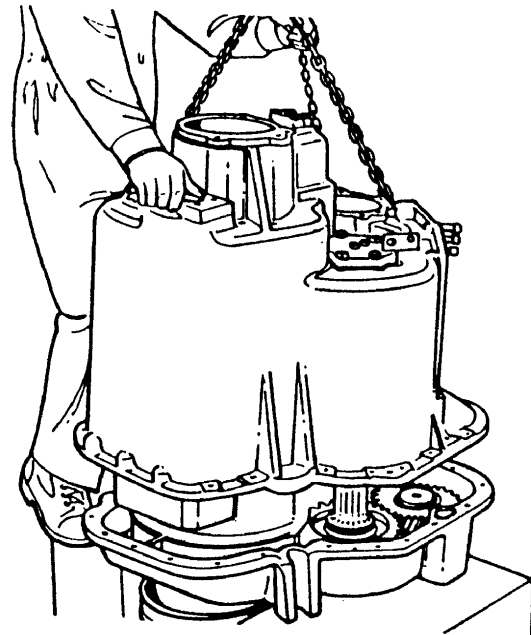

Fig. 7C.20. Lifting Housing
8. Drive dowel pins down to allow housing removal. Using slots provided, pry cover from housing (Fig. 7C.19). Attach lifting chains in three positions (Fig. 7C.20) and lift housing off cover.